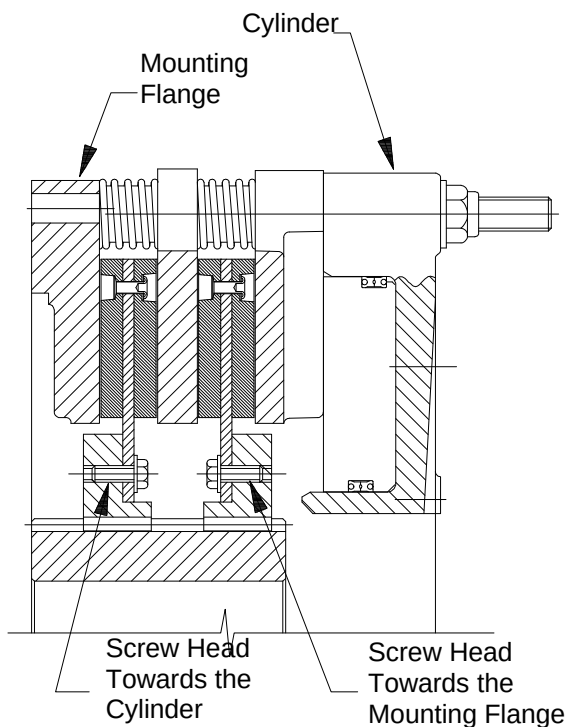

Fig. 10
- 4.2.10 Slide the friction disc assembly onto the gear, noting the orientation of the heads of the screws attaching the friction disc to the ring gear (37). See Fig. 10 and Table 9 for ring gear / screw head orientation.
Note: Friction disc order listed from that closest to the mounting flange to cylinder. i.e.: Fig 10 would be C,M.